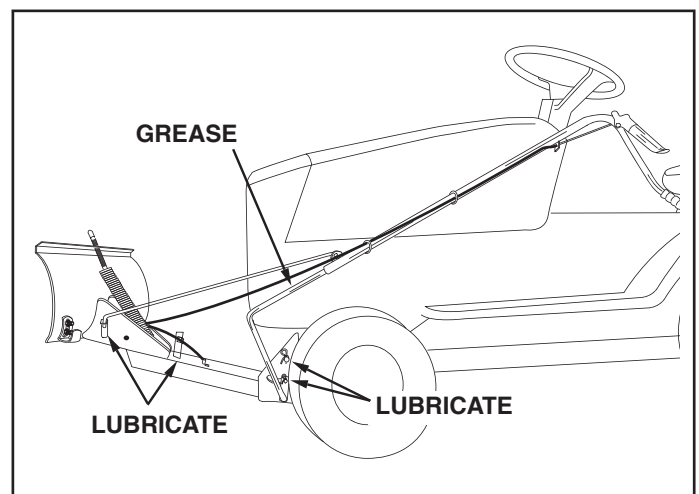

FIGURE 27
- Lubricate all pivot points to help maintain proper operation of blade. Use grease packet furnished with the snow blade for lubrication of the upper portion of the lift handle rod. See figure 27.
- Lubricate all pivot points and all points shown in figure 27, page 15 in the maintenance section.